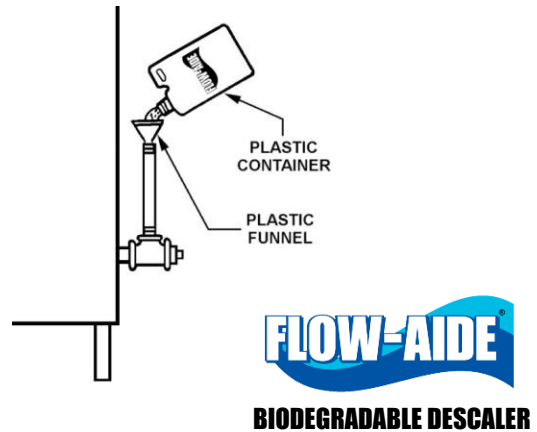

FIGURE 1
1. Using 3/4" N.P.T. fitting and nipples, make up a standpipe arrangement at the heater drain valve opening as shown in figures 1 and 2. Note: the use of PVC or CPVC Schedule 80 plastic fittings and nipples is recommended. Use Tape Unyte™ Teflon tape or Blue Magic pipe thread compound when making up any threaded connections.